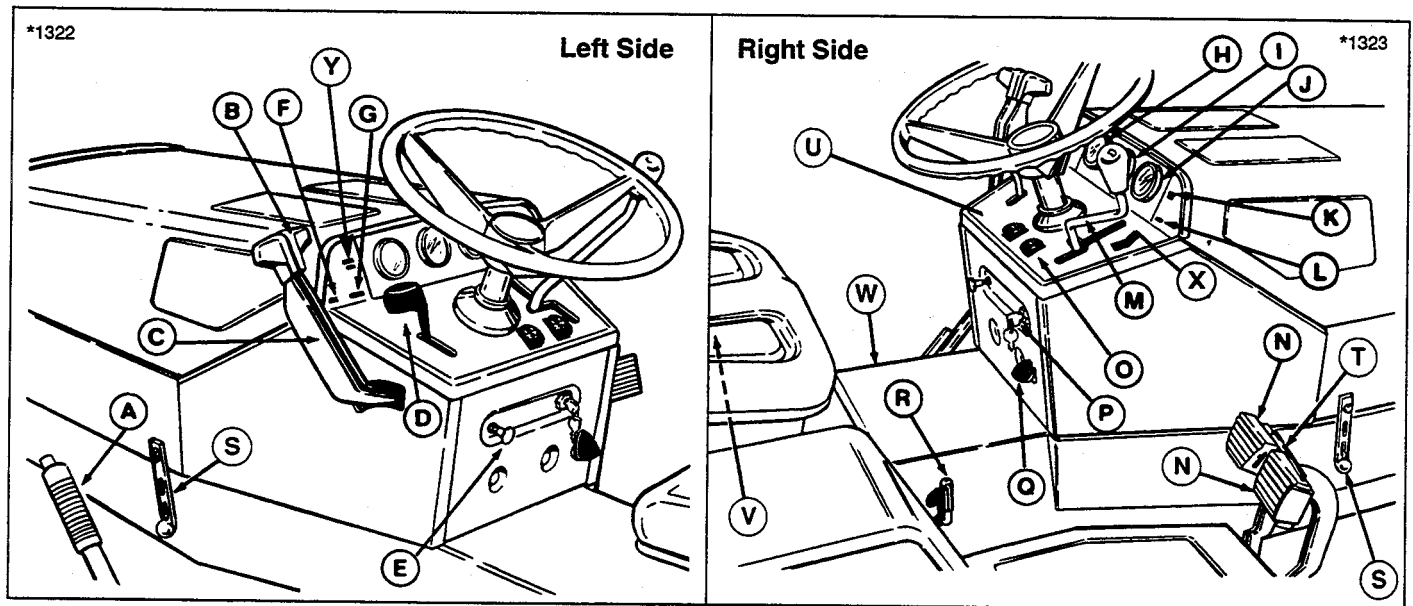

Figure 2. Tractor Controls
- A. Neutral Indicator Light (G, figure 2) should go on with ground speed control lever in neutral gate and should go out when lever is moved to either the forward or reverse gate.
- B. Front PTO Indicator Light (K, figure 2) should go on and off with operation of PTO switch.
- C. Oil Pressure Indicator Light (F, figure 2) should be on and should go out immediately after engine starts.
- D. Operator Seated Indicator Light (L, figure 2) should go on when operator is present in the seat and should go off as operator rises out of the seat.